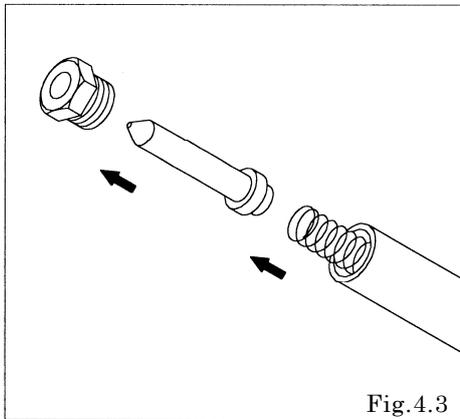

Fig. 4.3
- Remove the nut, and remove the valve from the center rod. [Fig. 4.3]